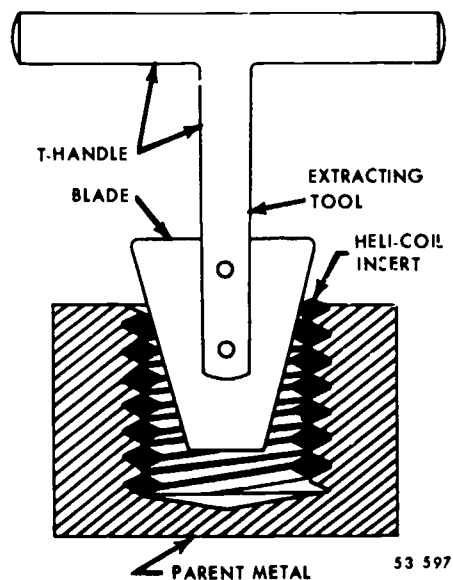

Figure 6-23. Use of the Heli-Coil extracting tool.
**Heli-Coil Insert Installation.** The use of Heli-Coils requires some special tools, the most important of which is the tap. (See fig. 6-23.) Each size of Heli-Coil insert has its own special tap. Also, each Heli-Coil size has a particular size of inserting tool. The standard inserting tool prewinds the Heli-Coil (compresses it to the same size that it will be when installed) in a threaded tubular portion, and a slotted center shaft is used to wind the insert into the parent threads. If your shop does not have a Heli-Coil tap drill chart, you can obtain this information, as well as other information about the use of Heli-Coils, from Technical Order 44H-1-117, *General Installation of Heli-Coil Inserts*.
**Heli-Coil Insert Removal.** Removing a damaged Heli-Coil is a fairly simple matter. Figure 6-23 shows how a standard Heli-Coil extractor is used. Each extractor tool has a certain range of insert sizes that it can be used on (usually marked on the tool). The extractor tool should be used with hand pressure only and should not be driven into the insert with a hammer. The blade edges can be easily damaged when the tool is seated with a hammer. Before you attempt to remove the insert, check to see whether the parent metal has been dimpled in front of the top thread of the Heli-Coil. If it has been, you must remove whatever metal is blocking the insert thread before the insert can be efficiently removed. A stud extractor made from a tool bit can also be used to remove a Heli-Coil insert when a standard extracting tool is not available.
**Exercises (056):**